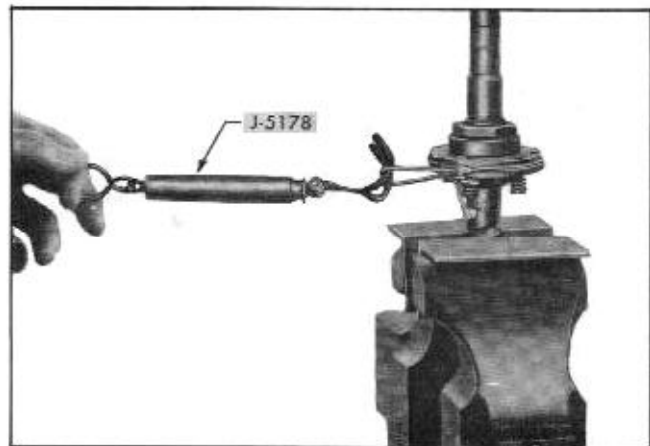

Fig. 9-38 Testing Thrust Bearing Preload
- c. Attach other end of cord to spring scale J-5178, then slowly pull the other end of the scale and check reading (Fig. 9-38).